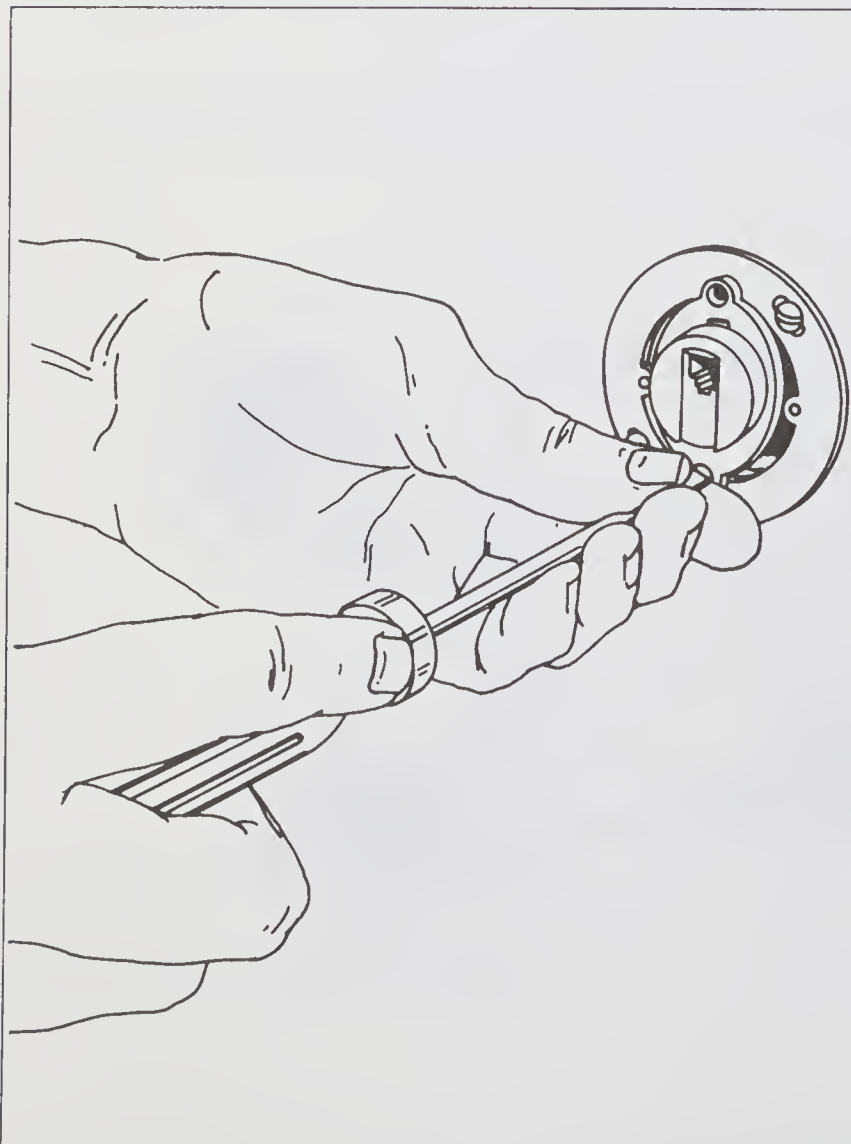

Figure 7-7.
10. Screw the bracket that holds the modular jack body into the mounting ring as shown in *Figure 7-7*.